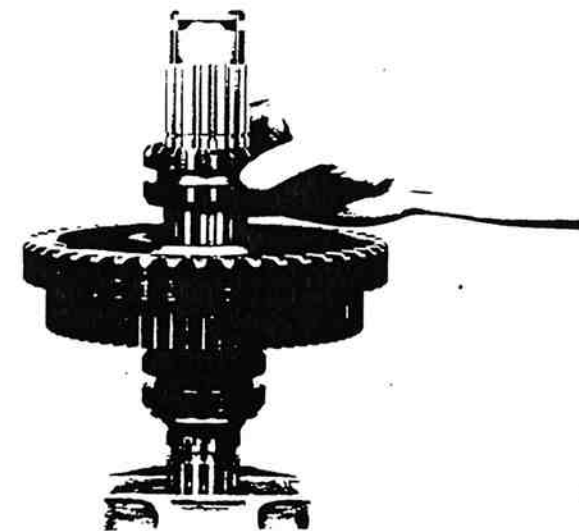

Figure 13-126. 1st-Reverse Sliding Clutch Installation.
12. Install 1st-reverse speed sliding clutch, aligning missing internal spline of sliding clutch with key in mainshaft (figure 13-126).